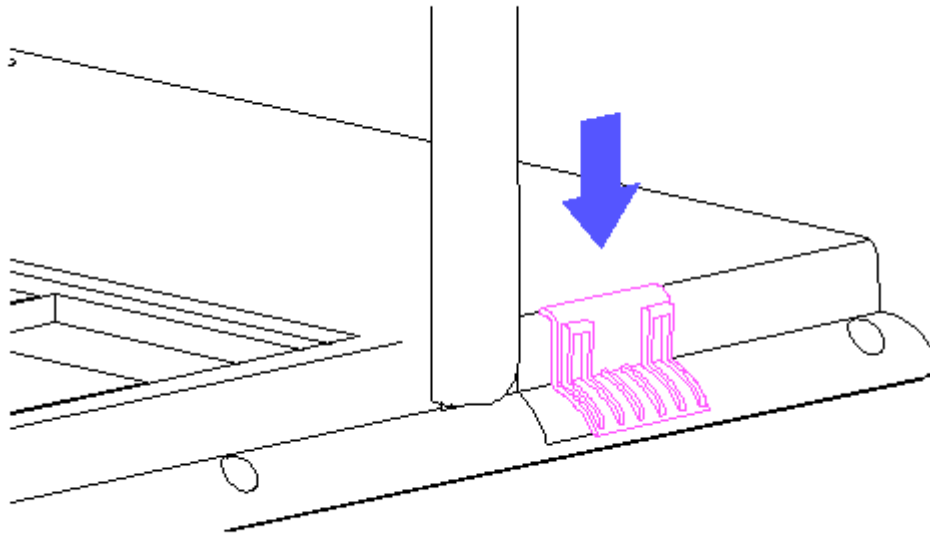

Figure 3-32. Installing a Foot Latch
5. To install a new foot latch, insert the latch from the outside of the cover and snap it into place (Figure 3-32).